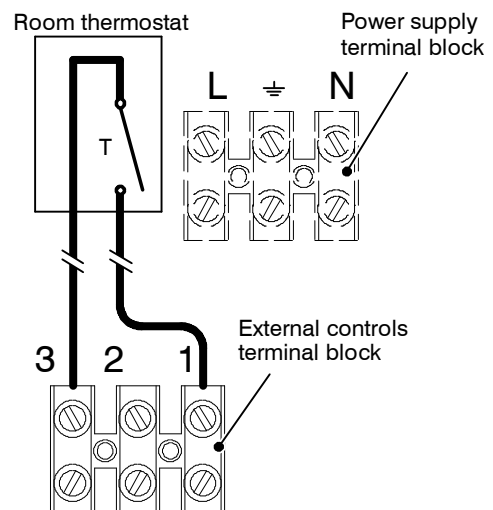

fig. 6.14
- 8 Connect the room thermostat between terminals 1 and 3 as shown in fig. 6.14.